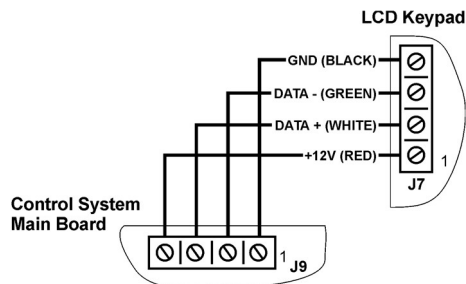

Figure 2.8: Connections for Hardwire LCD Keypad
6. Connect the terminal block on the keypad to the appropriate terminal block on the control system's main board as shown in Figure 2.8.